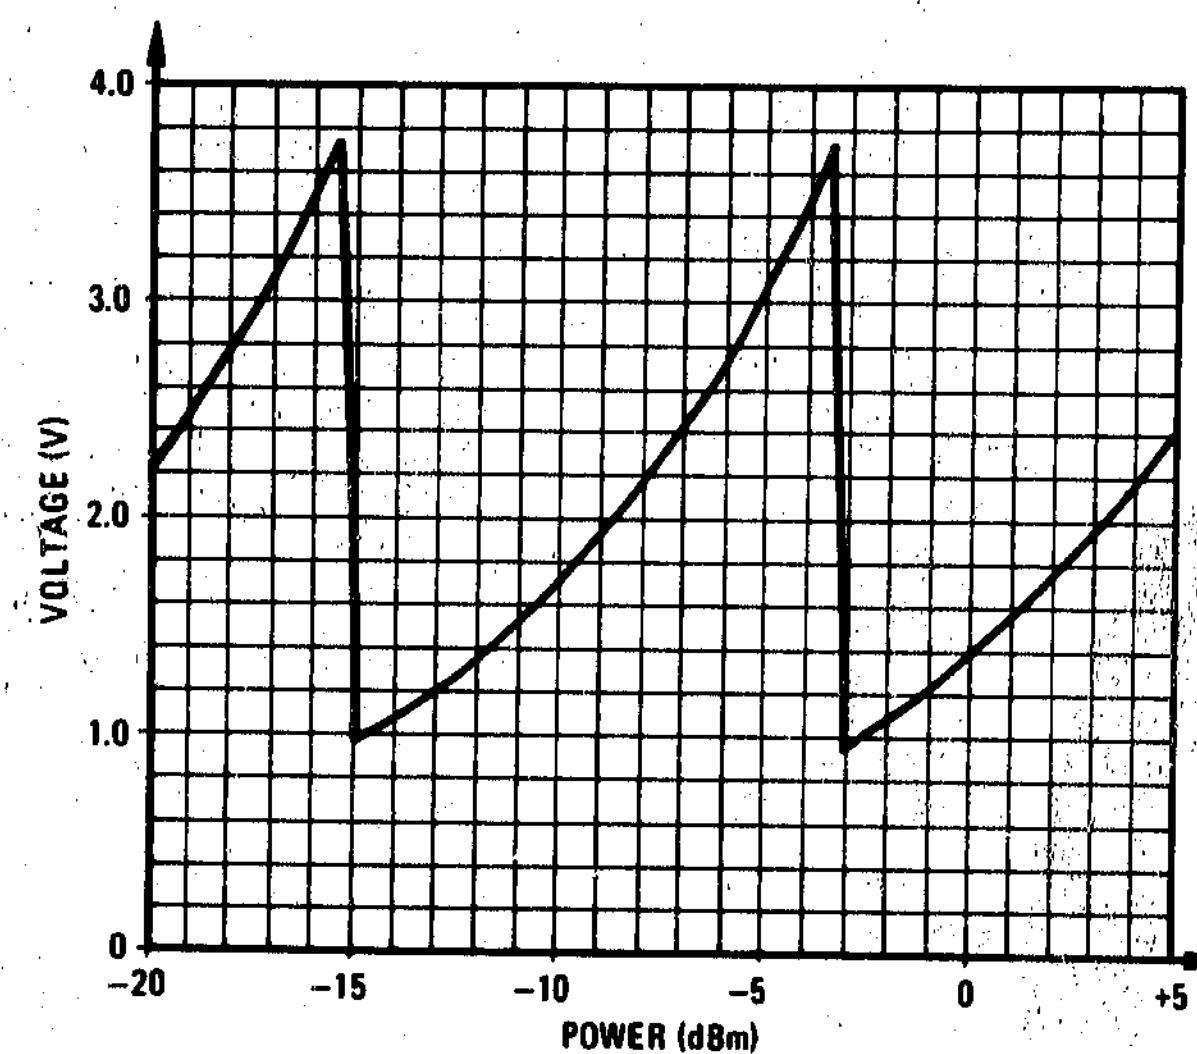

Figure 8-34. Voltage at A7TP3 vs. Power Output
10. If the voltage range at A7TP4 is incorrect, attach the voltmeter to A7TP3. This voltage varies as shown in Figure 8-34. If this voltage is correct, measure U1B pins 5 and 6. They should be equal. If they are equal, the multiplexer, U5, is probably defective. If the inputs to U1B are not equal, then the problem is probably in U1B or associated components.